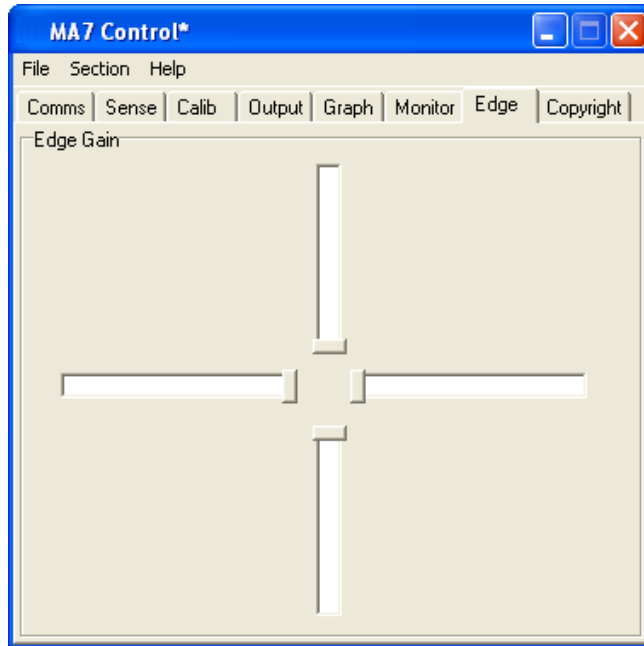

Fig 13
2. Each of the sliders represents one edge of the sensor; the default position is as illustrated above (Fig 13).